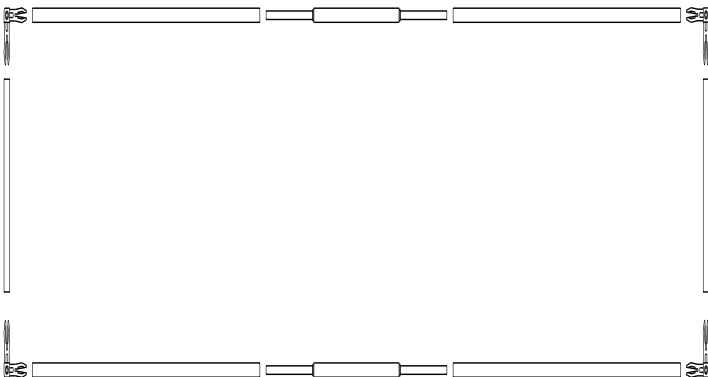

Figure 8: Diagram of 1 ft x 5 ft frame
- 1** Build the 1 ft x 5 ft frame structure as shown in Figure 8 using four 2 ft aluminum frame tubing pieces, two 1x tube connectors, two 1 ft aluminum frame tubing pieces, and four right-angle tubing connectors. Remember to construct the frame so that all Velcro surfaces face in (toward the center of the structure).